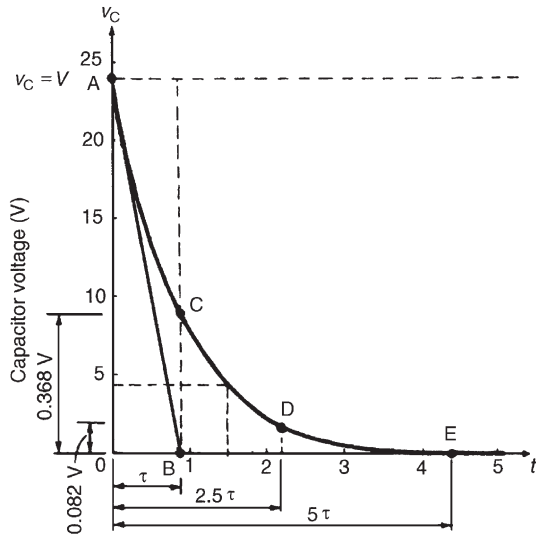

Figure 18.5
i.e.  $5 \times 0.88 = 4.4$  s. With reference to Fig. 18.5, to construct the decay curve:
- (vi) the value of the transient after a time equal to two and a half time constants is 0.082 of the initial value, i.e.  $0.082 \times 24 = 1.97$  V, shown as point D in Fig. 18.5,
- (b) The voltage drop across the resistor is equal to the capacitor voltage when a capacitor is discharging through a resistor, thus the resistor voltage/time characteristic is identical to that shown in Fig. 18.5. Since  $v_R = v_C$ , then at 1.5 seconds after decay has started,  $v_R \approx 4.4$  V (see (vii) above).